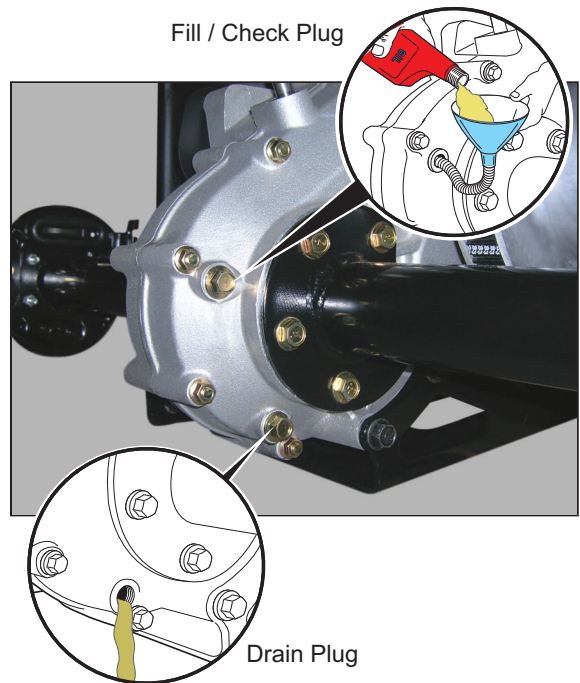

Fig. 2 Add, Check and Drain Rear Axle Lubricant
The rear axle is provided with a lubricant level check plug located on the driver side at the rear of the housing (Ref. Fig. 2). Unless leakage of rear axle lubricant is evident, an annual lubricant check is sufficient
The neutral lock is located on the direction selector. To operate neutral lock located on the direction selector, first turn the key switch to 'OFF', place direction selector in 'R' and remove seat. Pull out (1) and rotate(2) the neutral lock pin handle so that the pointed portion of the handle is over the side of the direction selector cam (Ref. Fig. 2). Move direction selector lever towards the area between 'F' and 'R'. During that motion, the pin will snap into the hole in the direction selector mounting bracket, preventing any movement of the lever. When in this position, the direction selector remains locked in the neutral position. To activate the direction selector, pull the neutral lock pin handle out and rotate until the pointed portion of the handle fits into the hole (3) in the direction selector cam.